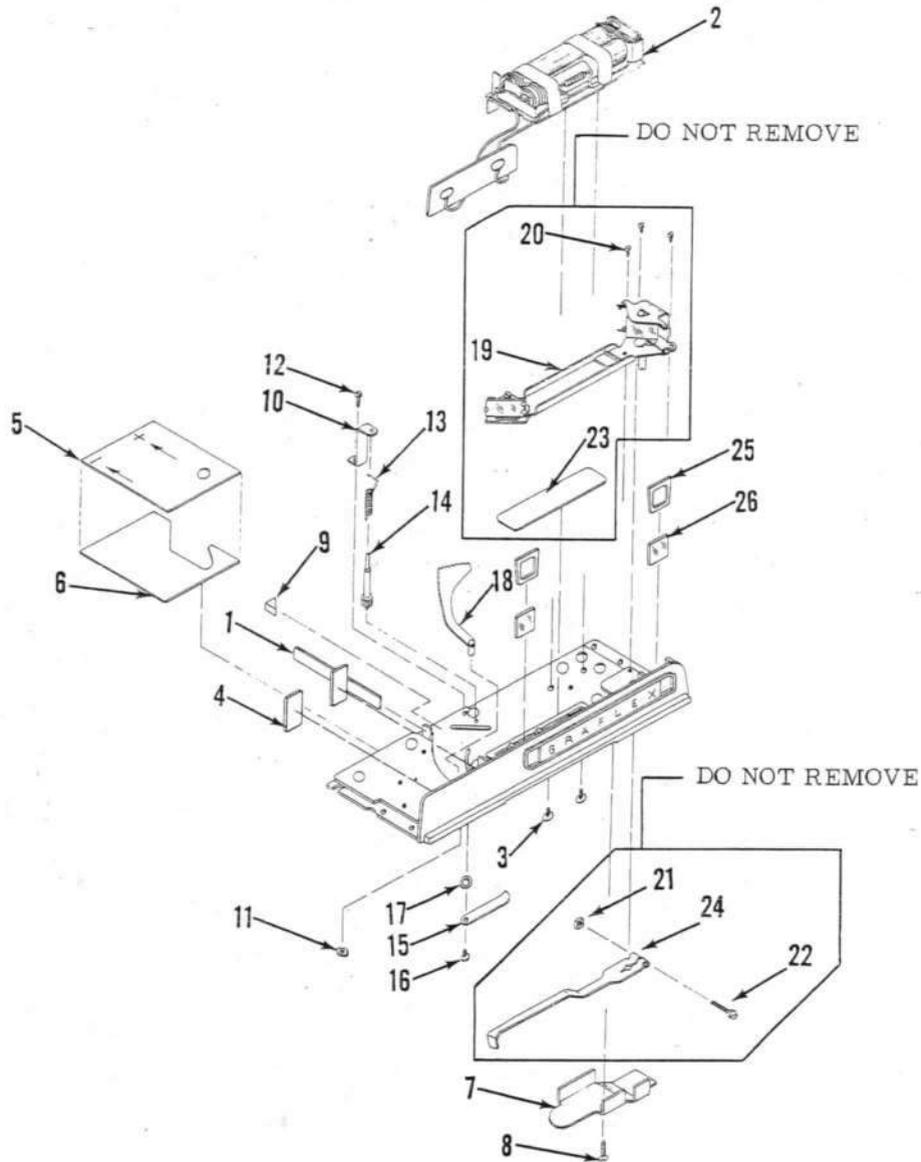

Figure 5. HOUSING COMPLETE - RANGEFINDER
**NOTE:** To insure trouble free operation, remove index 1, 2 and 3 (figure 5) and return housing assembly to nearest Graflex Service Department. An alternate housing assembly (at nominal charge) with critical mirror and lever adjustments accomplished will be returned. A focusing scale indicator will also be furnished for installation. See page 43 for address of nearest Graflex Service Department. Use Catalog #9472 in correspondence when using the exchange program for Super Graphic Rangefinder Assemblies.